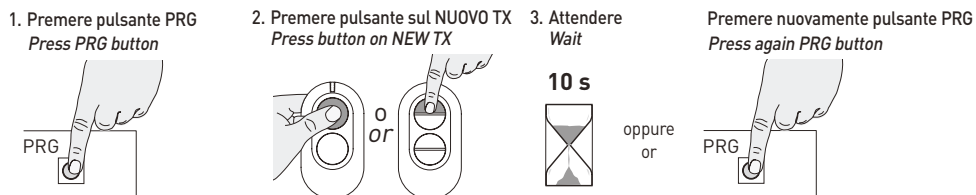

Fig.2
4. Memorizzazione ZEN2, ZEN4, ZEN2C, ZEN4C (fig. 2)
4. Transmitter storage ZEN2, ZEN4, ZEN2C, ZEN4C (Fig.2)